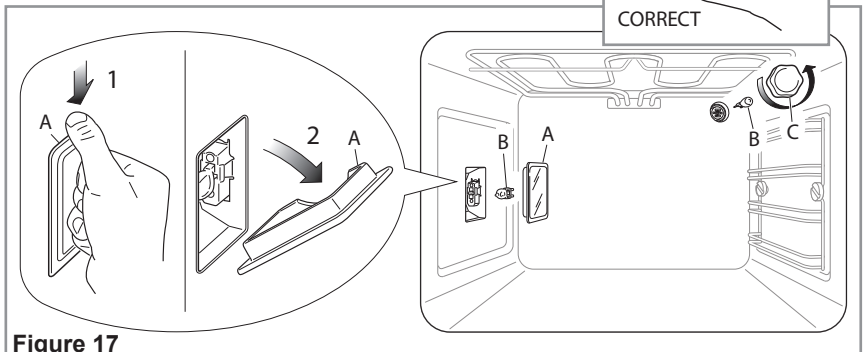

Figure 17
- Press down from the top the protective cover “A” (fig. 17) and remove it by rotating on the lower side.
- Remove the protective cover “C” (fig. 17).